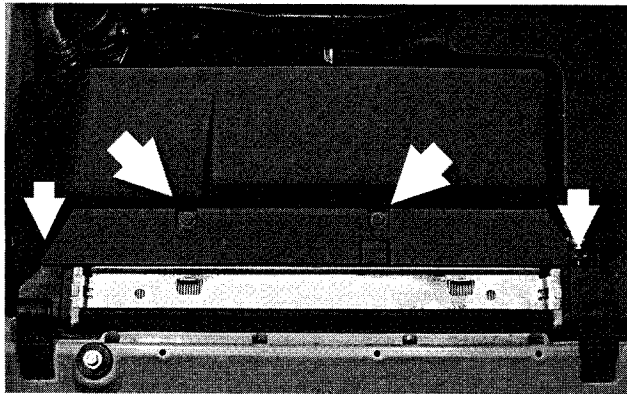

Fig. 10. Air cover in back of radiator. Unclip cover from fan shroud after removing mounting screws.
1. If necessary, remove cover from top of radiator. See Fig. 10.